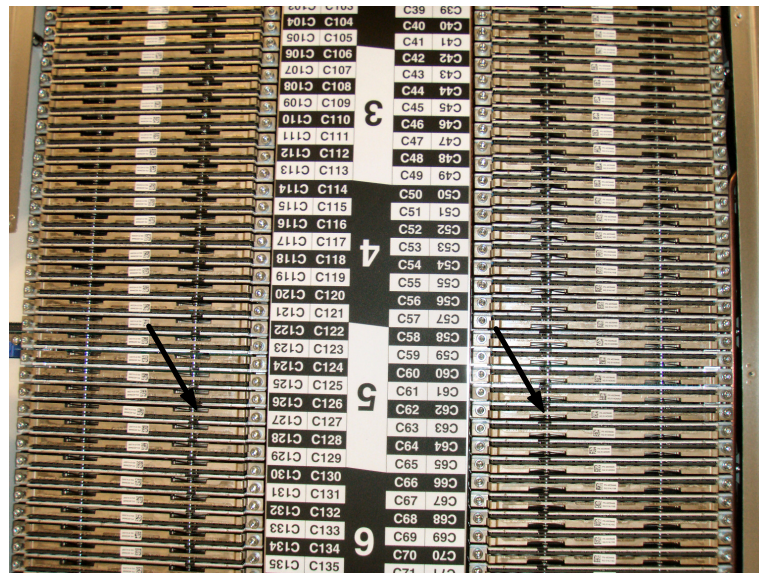

Figure 37 DIMM LED Lightpipe Locations
STEP 50 Locate the DIMM to be service by both the LED and Label. Note: For LED location, look at the lightpipe that is part of the DIMM assembly(see Figure 37). DO NOT use the LED on the surface of the circuit board, for CEC Drawers with less than full population of DIMMs the LEDs on the circuit board can be confusing.